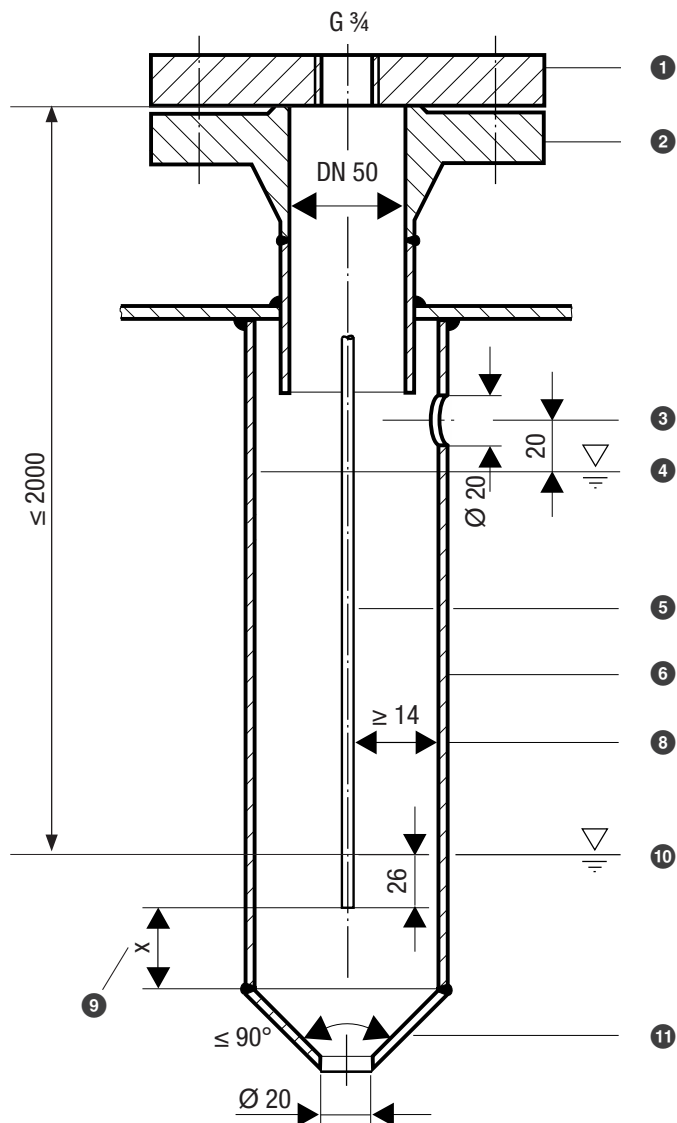
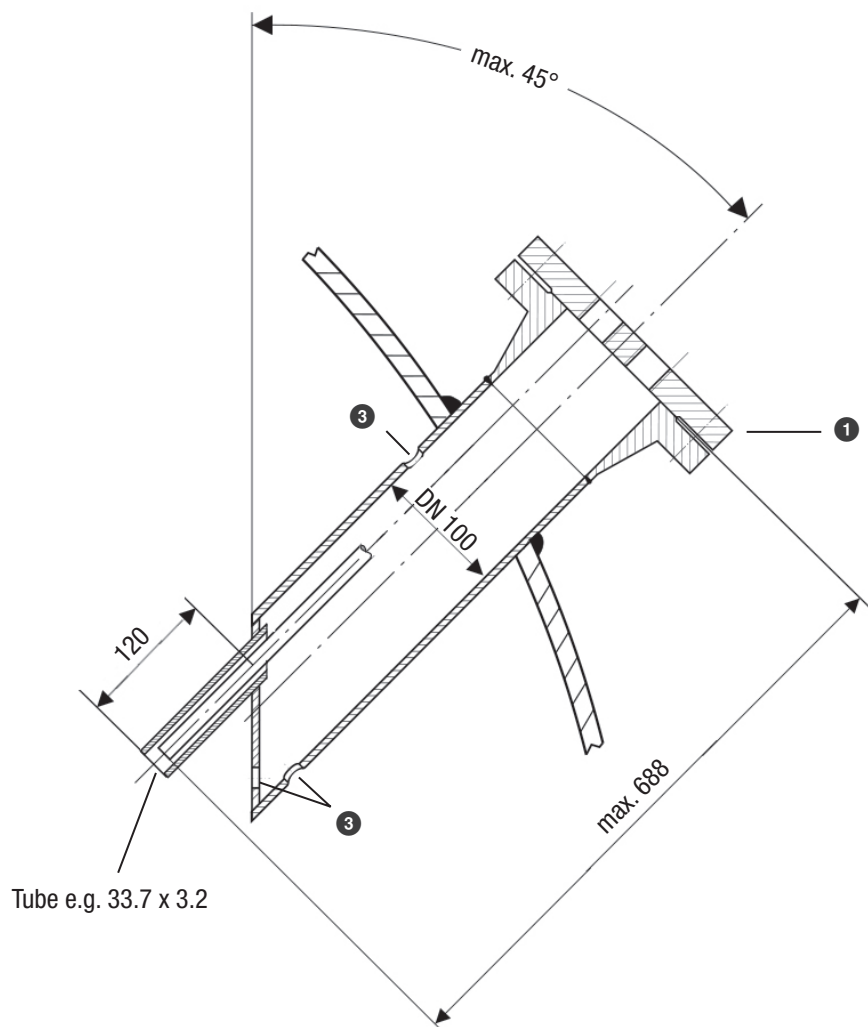

Fig. 9
Fig. 13
- Pay attention to the minimum clearances when installing the level electrode, see installation examples in Fig. 9 to Fig. 13.
Installation example with dimensions, see Fig 9, page 27
Key, Fig. 9 to Fig. 12
- ① Fig. 9, 10: Flange (PN 40, DN 50) EN 1092-01 (single electrode)